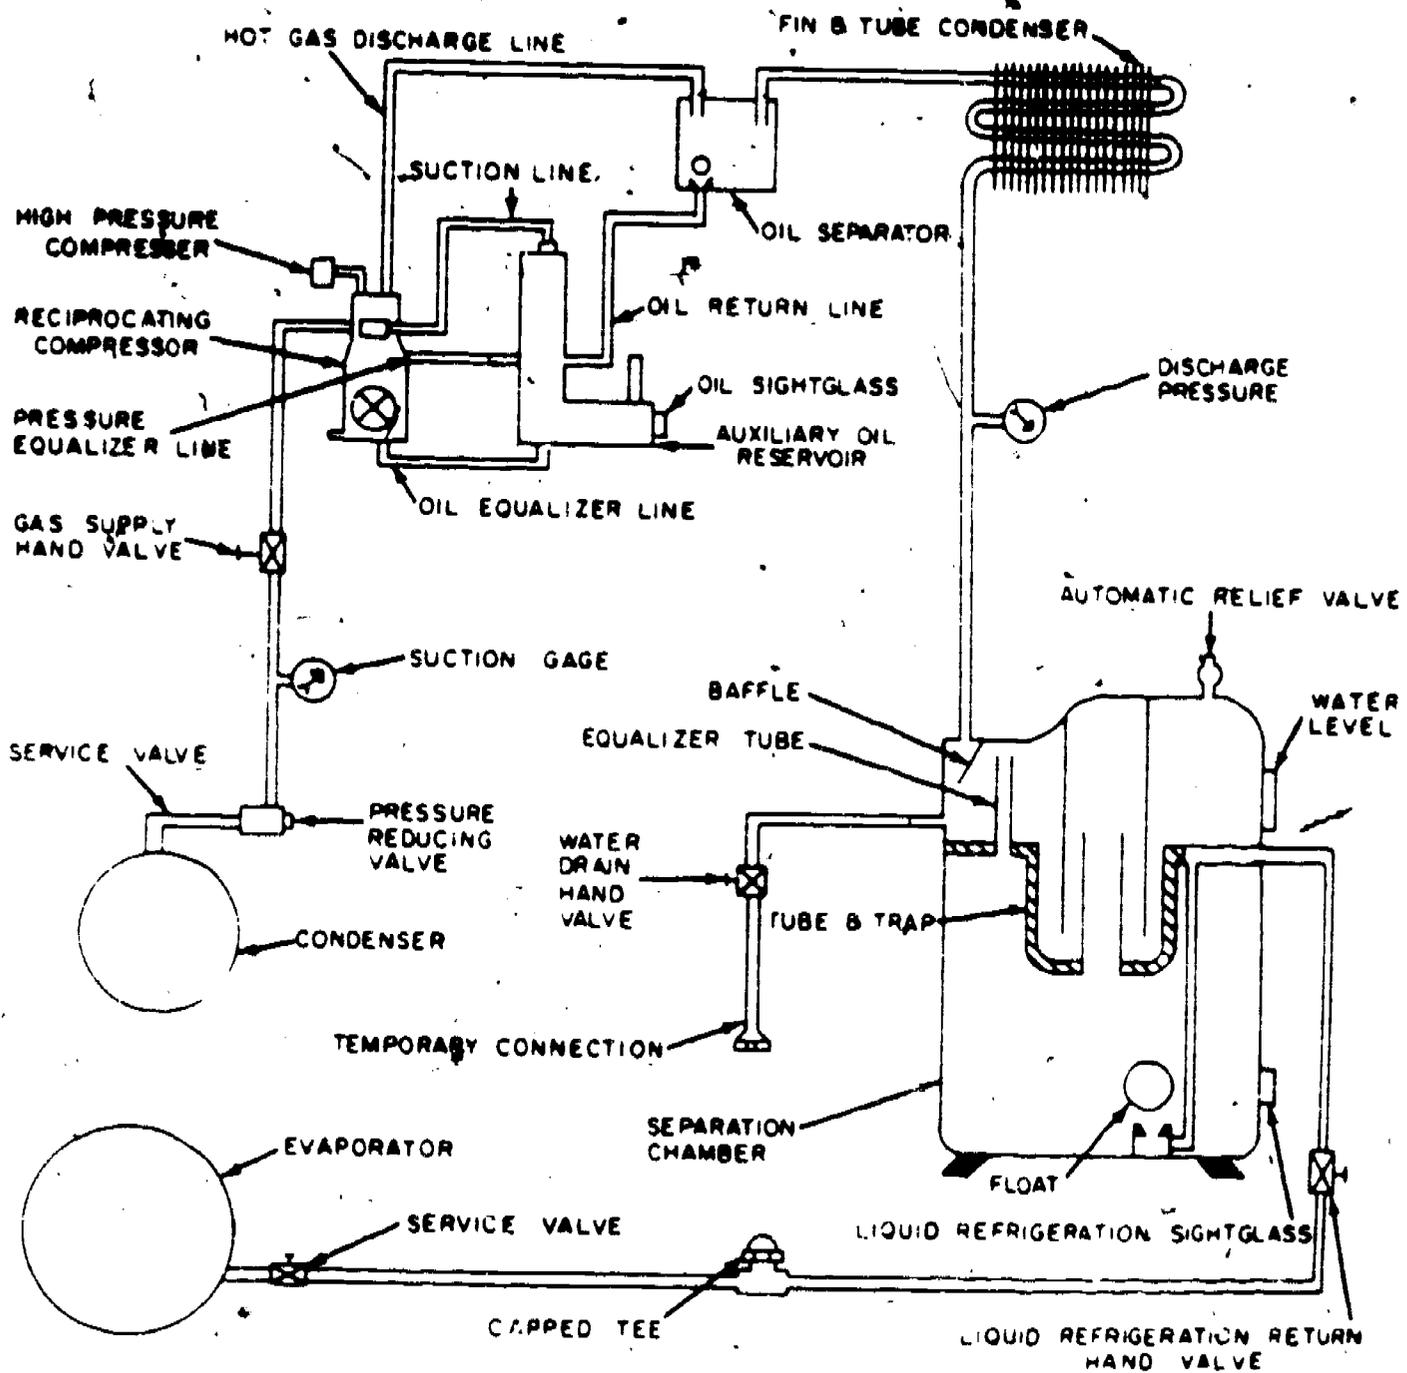

Figure 16. Purge Unit
**PURGE RECOVERY OPERATION.** The purge recovery operation is automatic, once the purge switch is turned "ON" and the four valves listed below, and referred to in figure 16, are opened.